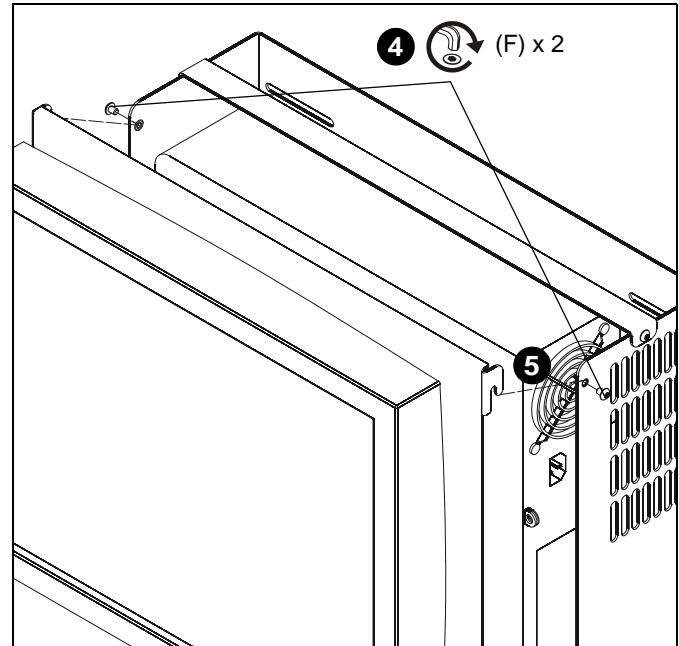

Figure 5
4. Partially install two #10-24 x 1/4" button head cap screws (F) through CPU holder (A) holes. **DO NOT FULLY TIGHTEN!** (See Figure 5)
5. Use connector hooks to hang display and faceplate (B) to CPU holder (A) on partially installed button head cap screws. (See Figure 5)